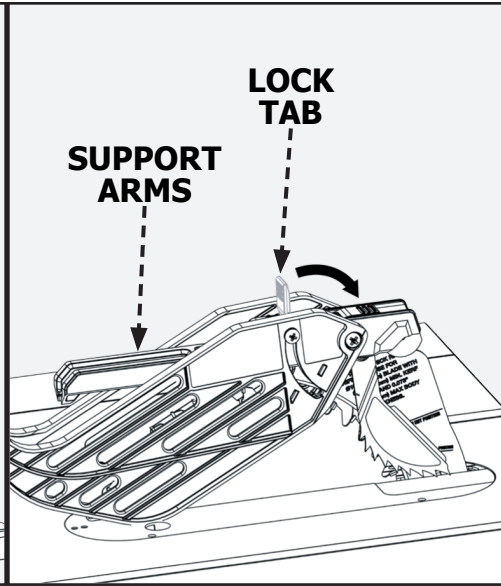

FIGURE 11
1. While holding the blade guard assembly (M) in a vertical position, hook the locating pin at the back end of the blade guard assembly into the slot at the back edge of the riving knife.
2. Rotate the blade guard assembly toward the front of the saw until the metal portion of the blade guard assembly is parallel to the table as shown in Figure 11.